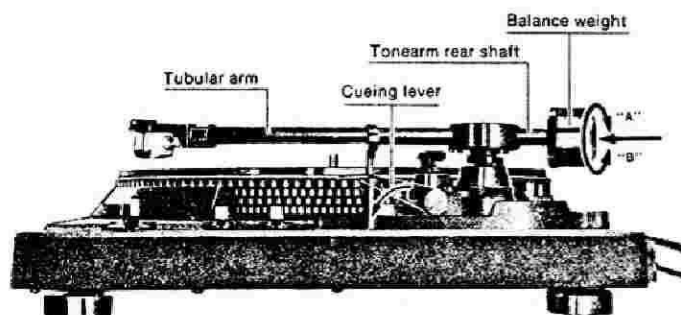

Fig. 2
- 1) Ensure that the cueing lever is in the lowered position as shown in Fig. 2.
Mount the balance weight on the tonearm rear shaft. (See Fig. 2)
- Turn the entire balance weight clockwise (indicated by the arrow "A") or counterclockwise (indicated by the arrow "B") until the tonearm is approximately balanced horizontally. (See Fig. 2) During the above adjustment, be sure that the stylus tip of the cartridge does not contact the turntable mat or player case.